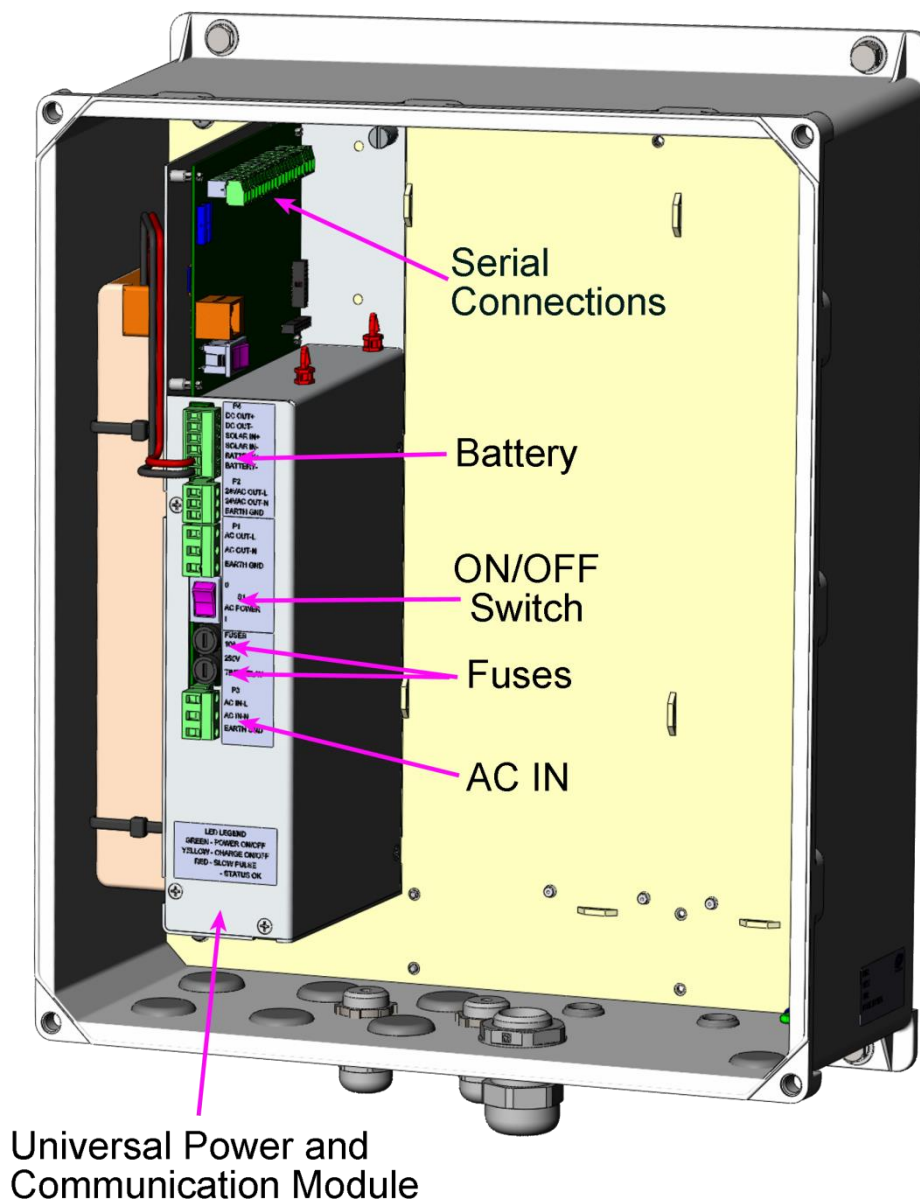

Figure 7. Model 6490-I Present Weather Sensor Enclosure (inside view)
2. Connect the sensor head wires using a friction lock connector to Serial Output 2 on the Universal Power and Communication Module inside the enclosure shown in Figure 7 according to the wiring diagram in Section 4.3.1.
Figure 7 shows the inside of the electronics enclosure.